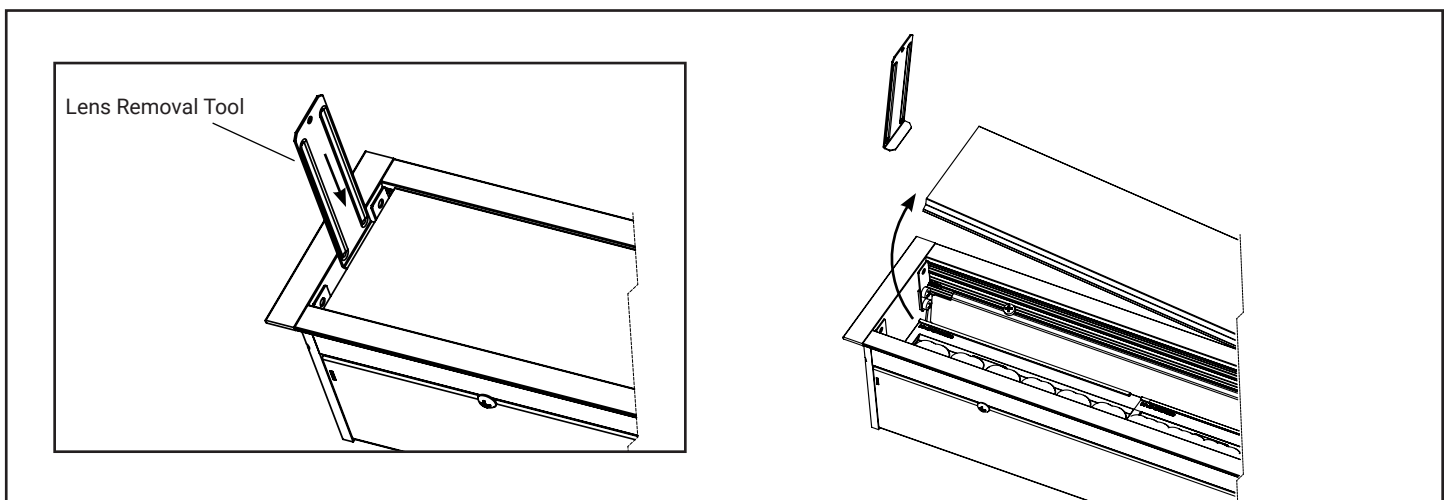

Figure 6
2. Remove the lens using provided lens removal tool. Insert the tool between the lens and the end cap and gently pry the lens up. Complete lens removal by hand. (Figure 6)